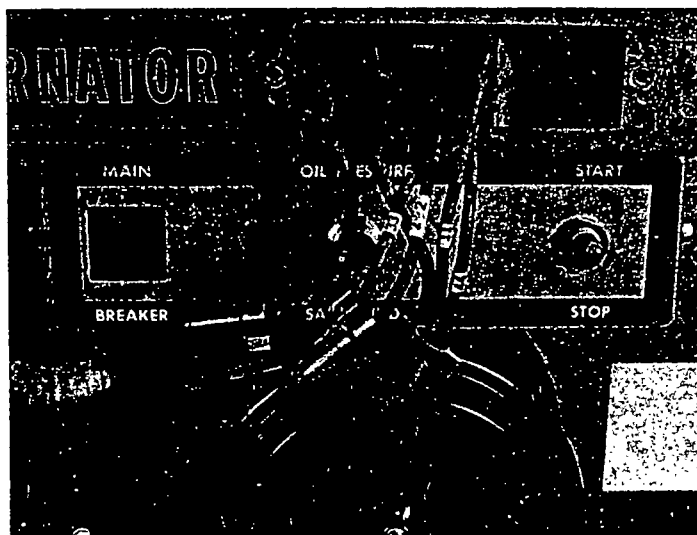

Figure 43
1.) Remove the 30 amp fuse (figure 43).